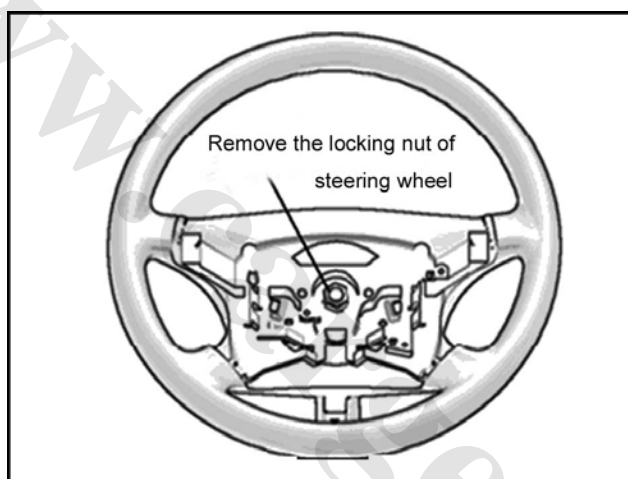

Fig. 2-28
6) Remove the fixing nut of the steering wheel, as shown in Fig. 2-28.